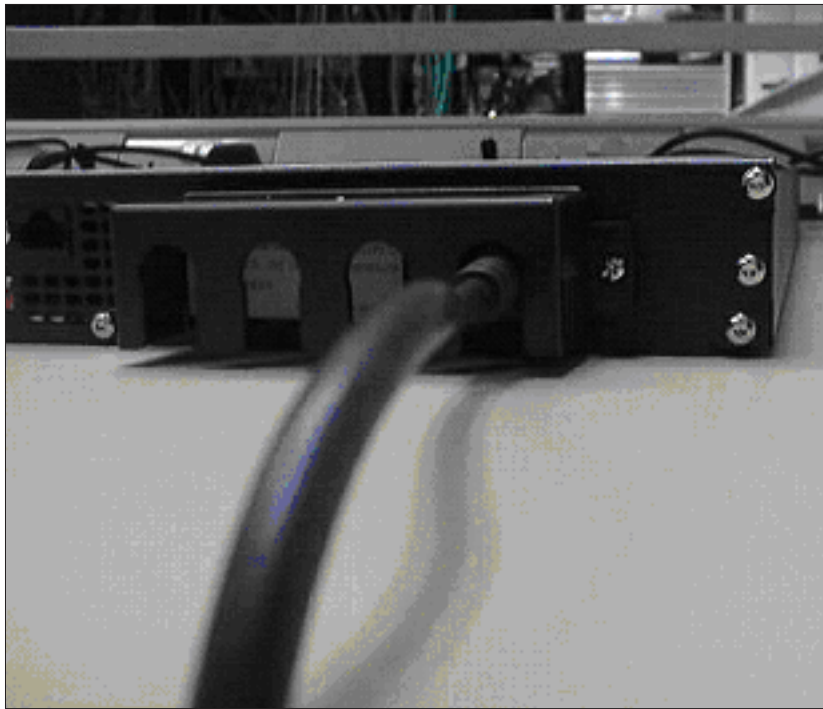
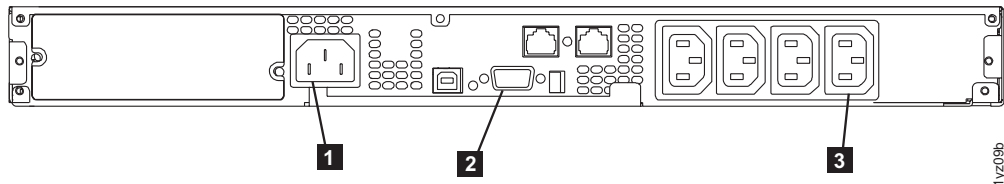

Figure 189. The 2145 UPS-1U cable retention bracket connected to the 2145 UPS-1U
Figure 190. 2145 UPS-1U (rear view)
9. At the back of the 2145 UPS-1U, connect the SAN Volume Controller power cable to load segment 2 receptacle **3**. See Figure 190 on page 452. If applicable, install the power cable retention bracket. See Figure 189 on page 452.
10. Reconnect the SAN Volume Controller signal cable to the communication port **2**. See Figure 190.